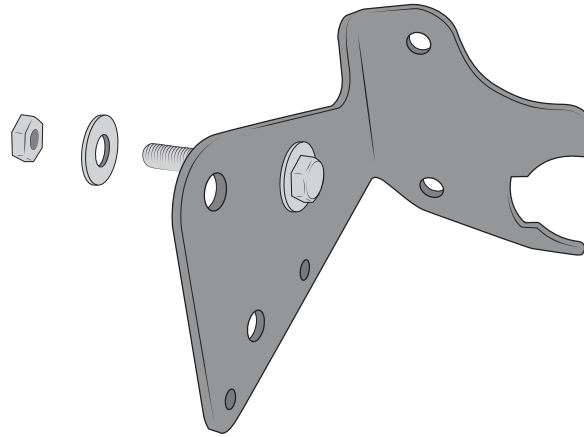

Figure 21
- D. Pre-assemble the second bracket as shown (Fig. 21) with the supplied bolt, washers, and free-spinning nut.